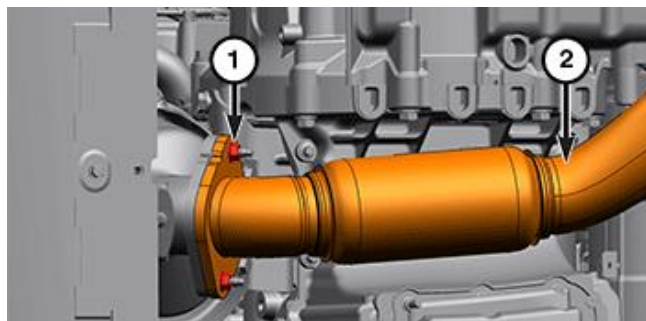

Figure 35 – Catalyst Flange Fasteners
- a. Remove and **DISCARD** the flange nuts (1) securing the crossunder pipe (2) to the catalyst (Figure 35).